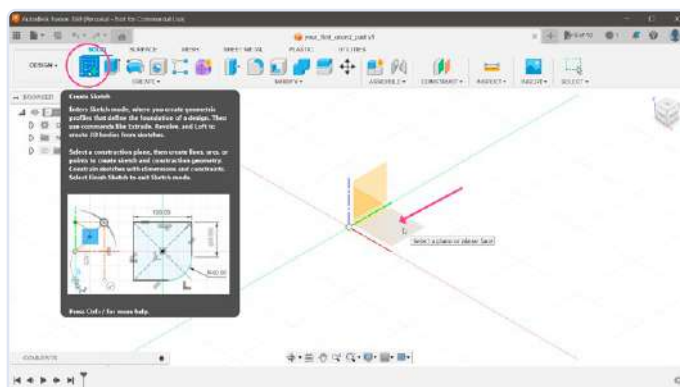

Figure 1: First steps for placing your Sketch. (Source of all screenshots: Autodesk)
- 1) The first step in creating any 3D model is starting with a 2D drawing called a Sketch (**Figure 1**). In Fusion 360, click the **Create Sketch** button on the toolbar and select a plane upon which to place the sketch. Since our enclosure will be extruded to the top, placing the sketch on the bottom plane in the 3D space makes sense.